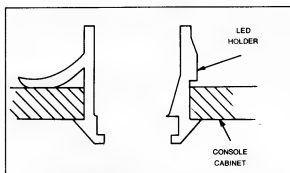

Figure 29. Cross-Sectional View of Seated LED Holder in Console Cabinet
5. Install new LED holder. Press holder gently into hole in console cover until it clicks into place (Fig. 29).